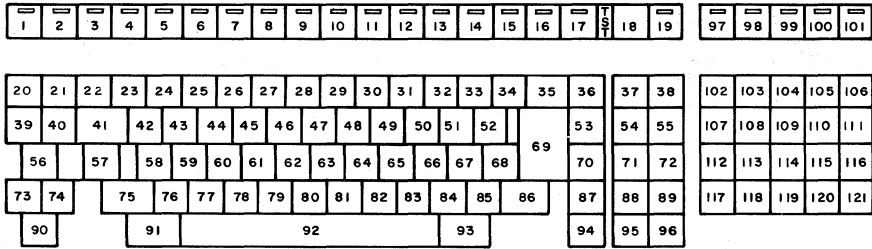

Fig. 6—Keyswitch Position Numbering
4.01 In operation, the keyswitch positions, shown in Fig. 6 are sensed by continuous logic scans. The keyswitch status is then translated and sent to the controller. All received system status information is translated for use by an indicator or the alarm.